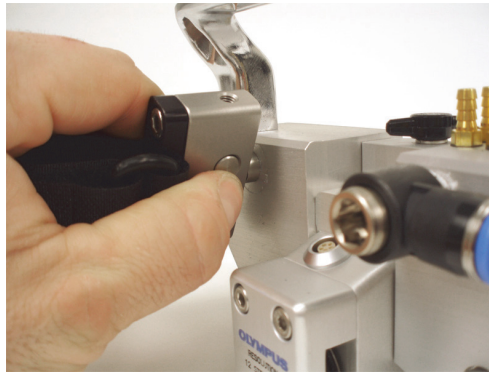

Figure 2-8 Umbilical-cable attachment
1. Press the locking pin on the umbilical bracket, slide the mounting hole over the attachment on the HSMT-Flex, and then release the pin (Figure 2-8 on page 42).